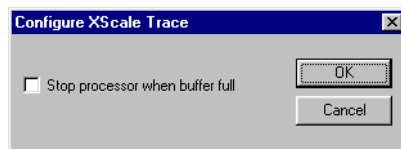

Figure 7-2 Configure XScale Trace dialog box
4. Select **Configure Capture** from the **Trace** menu. The Configure XScale Trace dialog box is displayed (Figure 7-2).